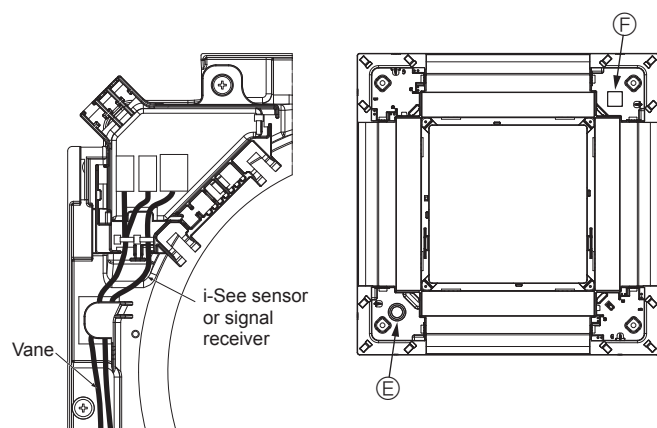

Fig. 5-14
- Route the i-See sensor and signal receiver wires as shown in Fig. 5-14.